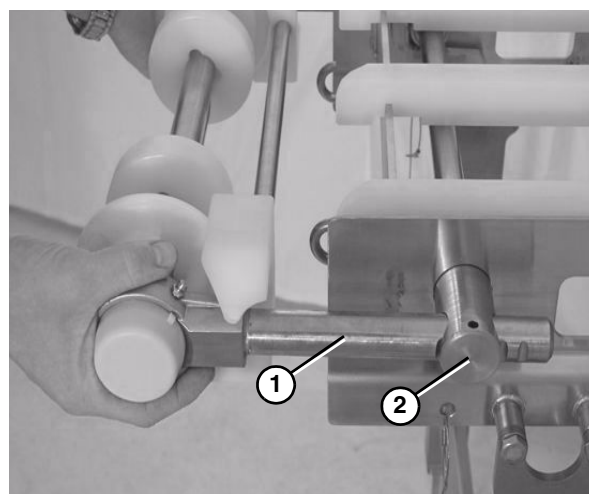

**Figure 66**
- Slide the drive tail assembly out of the take up blocks (**Figure 66**).
- Slide the motor support bracket (**Figure 66, item 1**) off the drive spindle (**Figure 66, item 2**).
- Remove the sprockets (**Figure 66, item 3**).